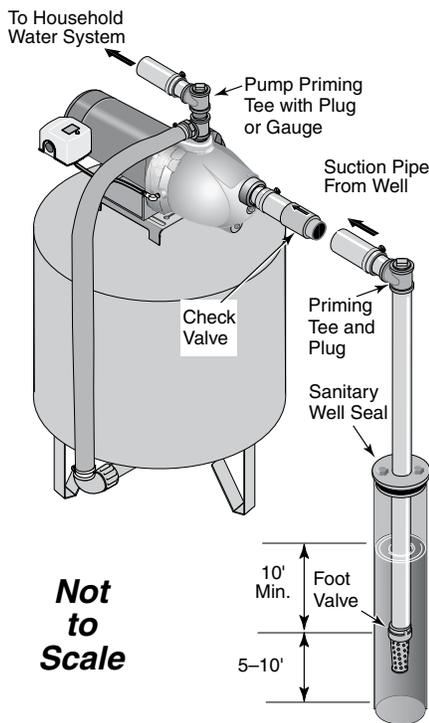

Figure 2: Cased Well Installation
CASED WELL INSTALLATION, 2" OR LARGER CASING (Figure 2)
- Step 2. Assemble the foot valve, strainer, and well pipe (see Figure 2). Make sure that the foot valve works freely.
Step 4. Install a priming tee, priming plug, and suction pipe to the pump (see Figure 2). Connect the pipe from the well to the pump suction port, using the fewest possible fittings – especially elbows – as fittings increase friction in the pipe (however, include a foot valve – see Figure 2). The suction pipe should be at least as large as the suction port on the pump. Use PTFE pipe thread sealant tape on threaded pipe joints. Support the pipe so that there are no dips or sags in the pipe, so it doesn't strain the pump body, and so that it slopes slightly upward from the well to the pump (high spots can cause air pockets which can air lock the pump). Seal the suction pipe joints with PTFE pipe thread sealant tape. Joints must be air- and water-tight.